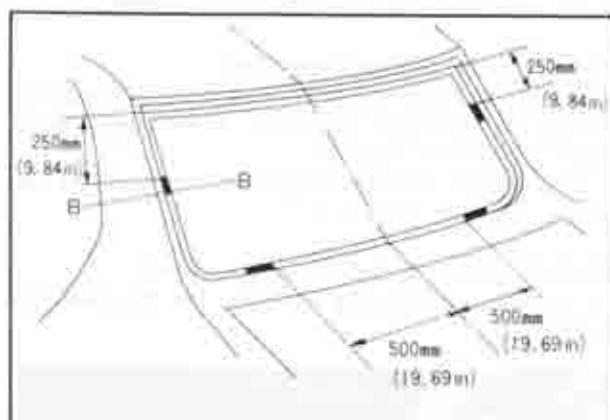

Fig. 14-36 Position of spacers
3. The directions and positions each spacer to be bonded are shown in Fig. 14-36.